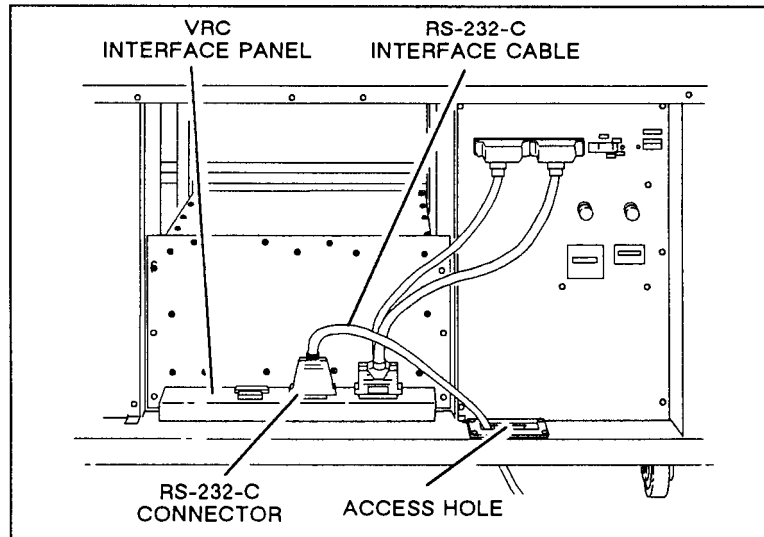
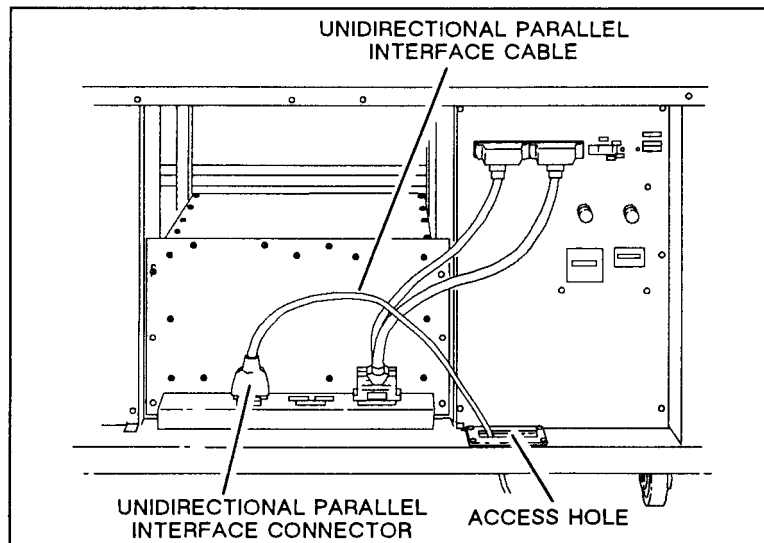
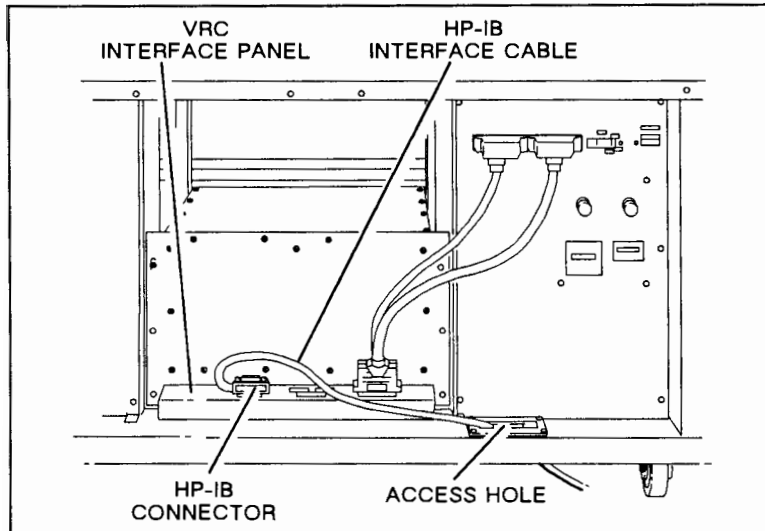

Figure 3-1. RS-232-C Cable Connection
Figure 3-2. Unidirectional Parallel Interface Cable
Figure 3-3. HP-IB Cable Connection
- d. Route an RS-232-C, PARALLEL, or HP-IB interface cable from the controller under the print engine and up through the access hole located just inside the front doors as shown in Figure 3-1.
- e. Connect the interface cable to the appropriate connector on the front of the VRC as shown in Figure 3-1, Figure 3-2, or Figure 3-3.